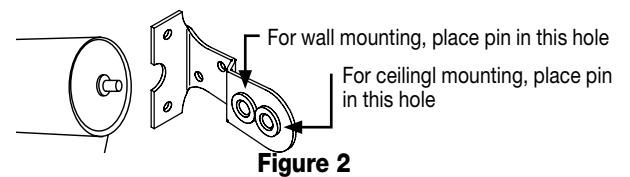

Figure 2
2. Insert idler end into right bracket (see Fig. 2).